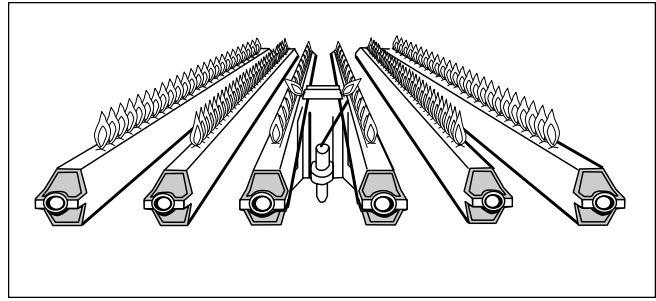

Figure 17. Main Burner Flame Pattern.
2. At start-up and every six (6) months thereafter, the pilot and main burner flame should be observed for proper performance (see Figure 17). See attached lighting and shut-down instructions for proper pilot flame pattern. If flame has the appearance of "sooting" tips, check for debris near orifices and call the Laars Service Department.